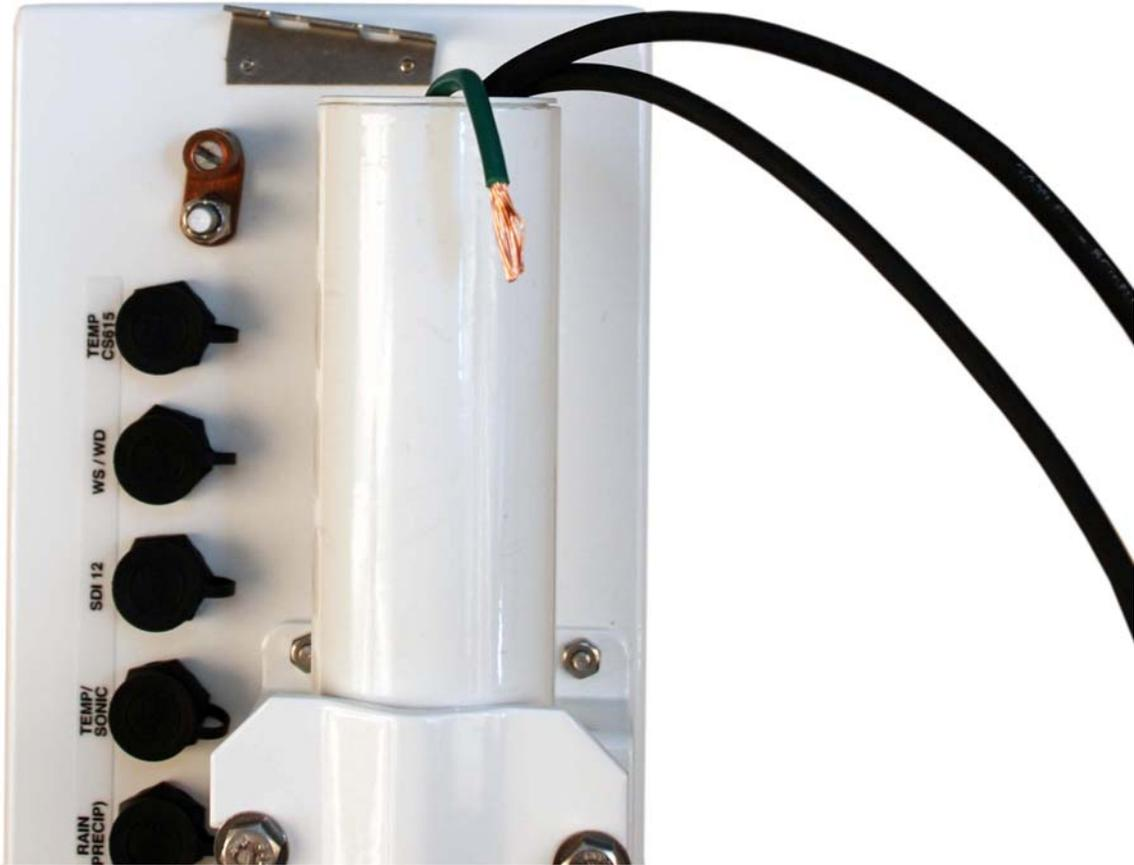

Figure 20
4. Carefully mount the lightning rod clamp to the top of the pole (see Figure 20). Position the clamp so it won't interfere with the connector cover.